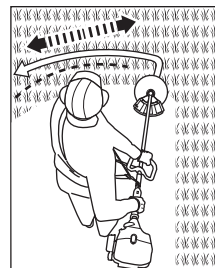

Fig.14b
- > Move the product with a slow regular arc from left to right before moving it back to the starting position before trimming the next area (Fig. 14b).